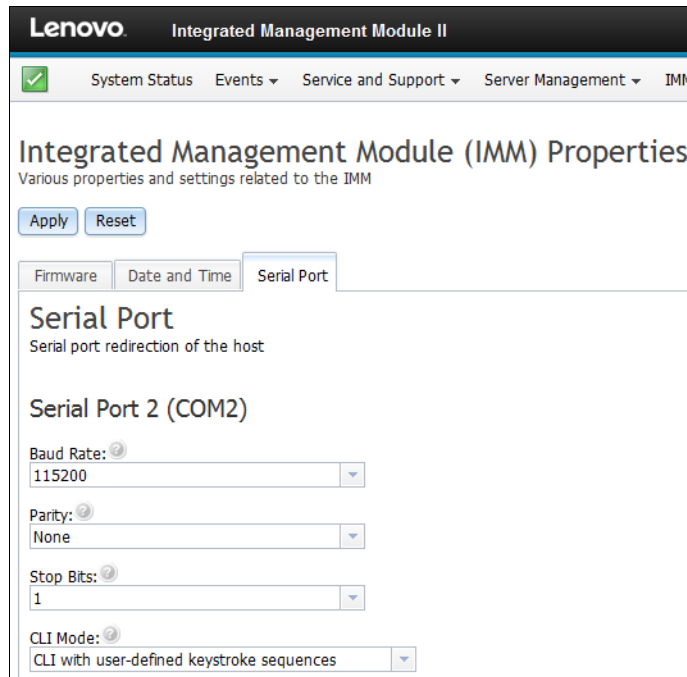

Figure 7-94 IMM2 Serial Redirect/CLI settings
3. From the IMM2 properties window, select the **Serial Port** tab, as seen in Figure 7-94.